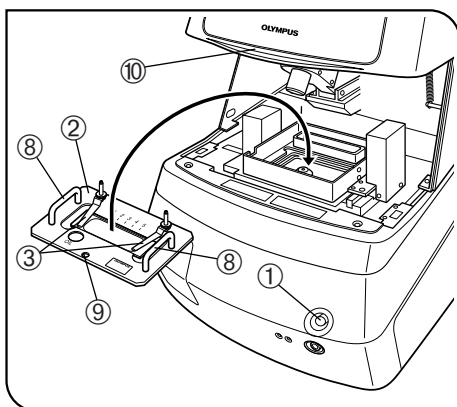

Fig. 7
(Figs. 7 to 9)
- Place the specimen in the specified specimen holder ② and fix the specimen with the specimen stopper ③ (Fig. 7).
4. Hold the specimen holder ② horizontally by the holder handle ③ or pillars of the specimen stoppers and place the specimen holder on the specimen holder mount so that the positioning hole ⑨ of the specimen holder comes on the front (Fig. 7).
6. Push down the close lever ⑩ and confirm that a click sound is generated (Fig. 7).